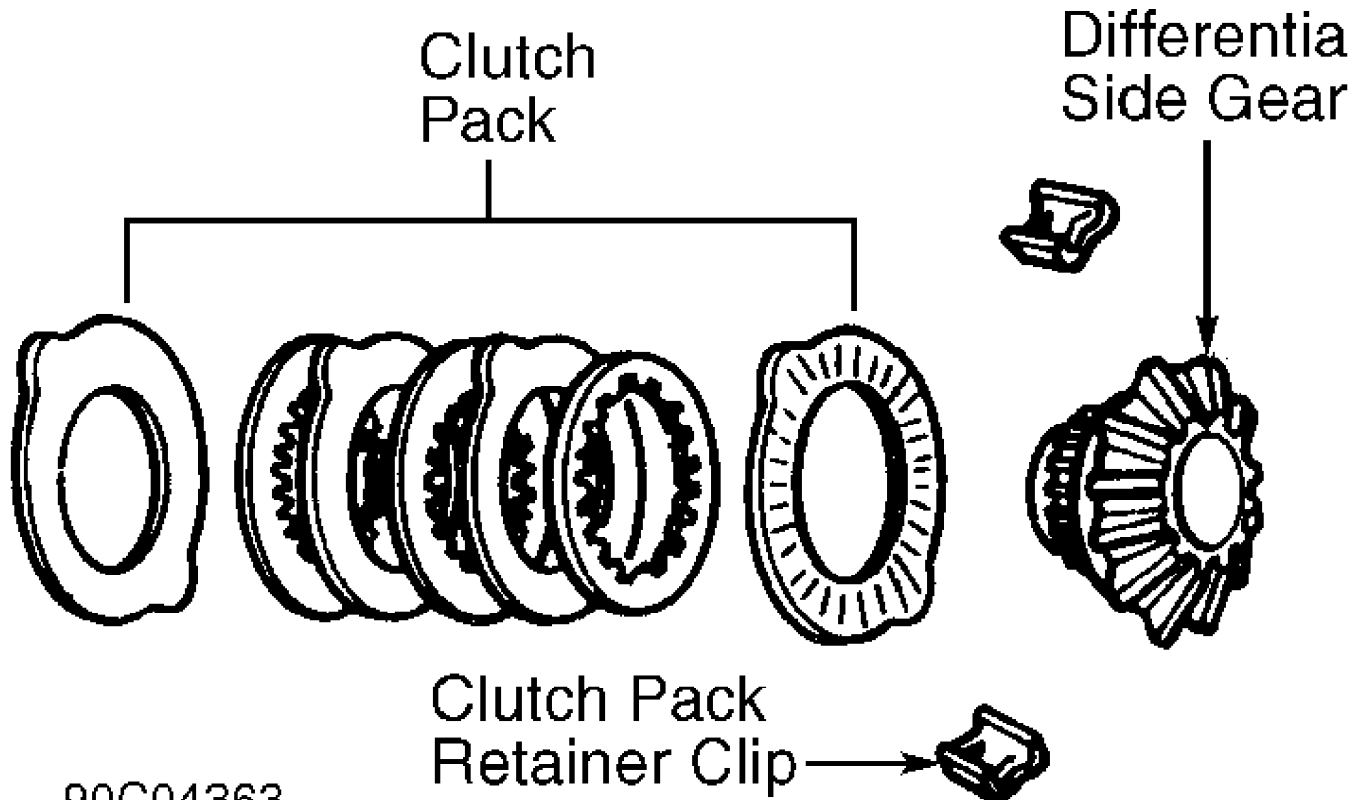

Fig. 2: Identifying Trac-Lok Clutch Pack Assembly
1) Lightly oil clutch discs. Assemble clutch pack discs. See Fig. 2. Assemble clutch packs on side gears.